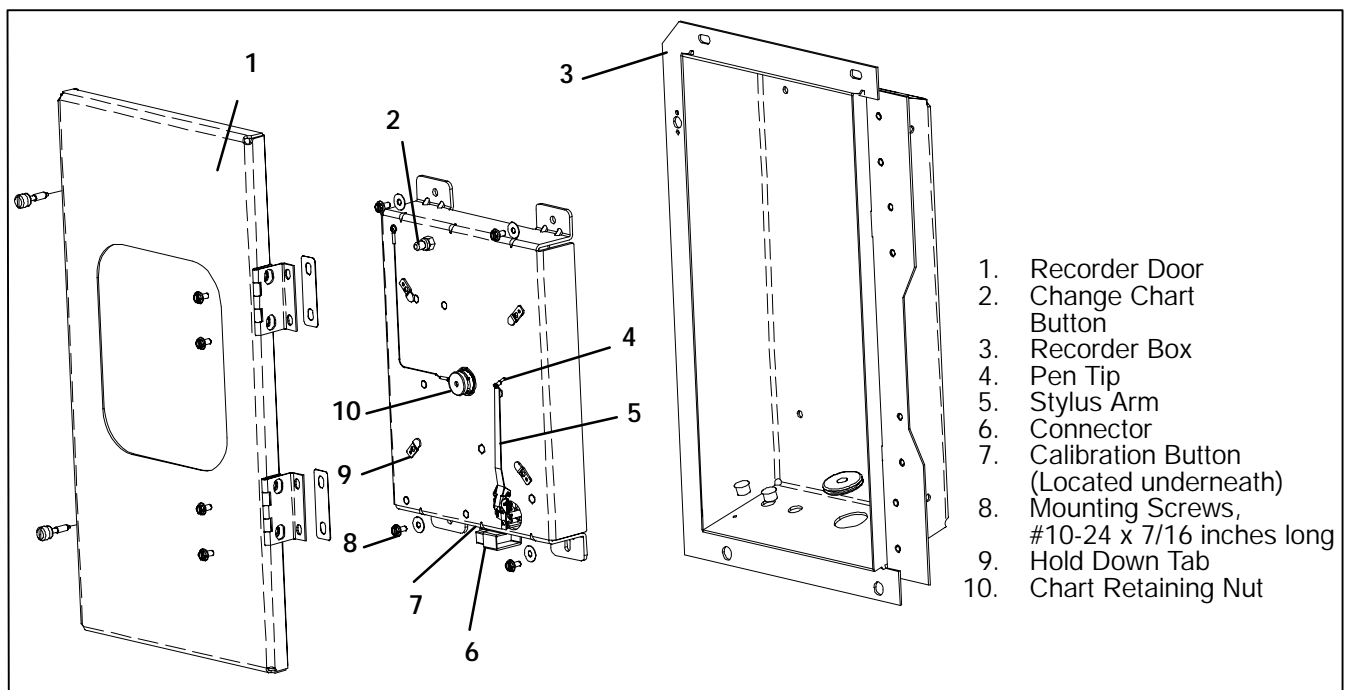

Figure 6-25. Electronic Partlow Temperature Recorder
- b. Open the recorder door (item 1, see Figure 6-25).
- c. Locate the connector below the recorder, and squeeze the ears together to disconnect the plug, (item 6).
- d. Remove the four mounting screws (item 8), and remove the recorder.
- a. Lift the stylus (item 5, Figure 6-25) by grasping the arm near the base, and pull the arm away from the chart until it snaps into its retracted position.
- b. Remove the chart retaining nut (item 10), remove the used chart, and record today's date on the old chart.
- c. Press the "Change Chart" button (item 2).
- Press the "Calibration" button (item 7, Figure 6-25) on the bottom of the recorder. The pen tip will drive fully down scale, then move upscale to the chart ring at -29°C (-20°F), and stop.
- If the tip of the pen (item 4) is on the -29°C (-20°F) chart ring the recorder is in calibration, proceed to step c. If the tip of the pen is NOT on the -29°C (-20°F) chart ring, the operator must loosen the two screws on the bottom of the stylus arm to adjust the pen tip manually to the -29°C (-20°F) chart ring. Tighten the screws when adjustment is complete.
- Press the "Calibration" button (item 7, Figure 6-25) on the bottom of the recorder. The pen tip will drive fully down scale, then move upscale to the chart ring at 0°C (32°F), and stop.
- If the tip of the pen (item 4) is on the 0°C (32°F) chart ring the recorder is in calibration, proceed to step c. If the tip of the pen is NOT on the 0°C (32°F) chart ring, the operator must loosen the two screws on the bottom of the stylus arm to adjust the pen tip manually to the 0°C (32°F) chart ring. Tighten the screws when adjustment is complete.